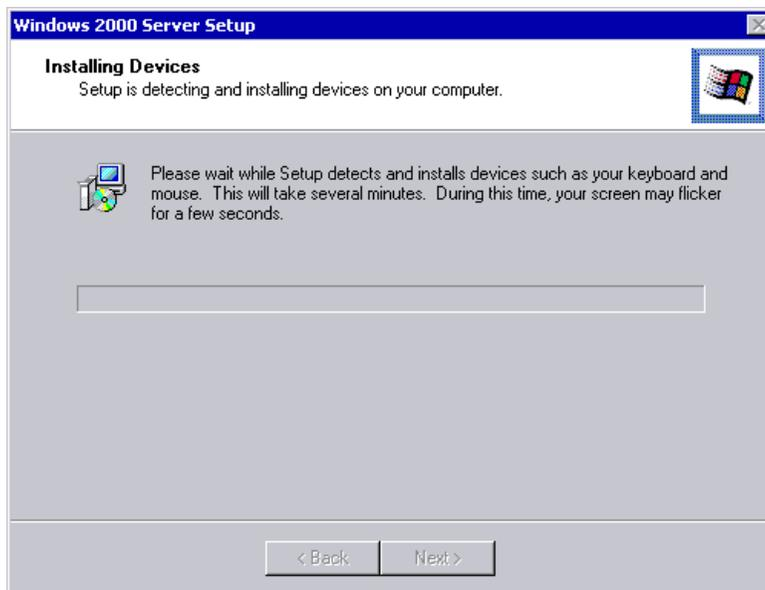

Figure 52. Detecting and installing devices
8. Setup continues and will detect and install devices as shown in Figure 52. Make sure to insert the Windows 2000 CD.